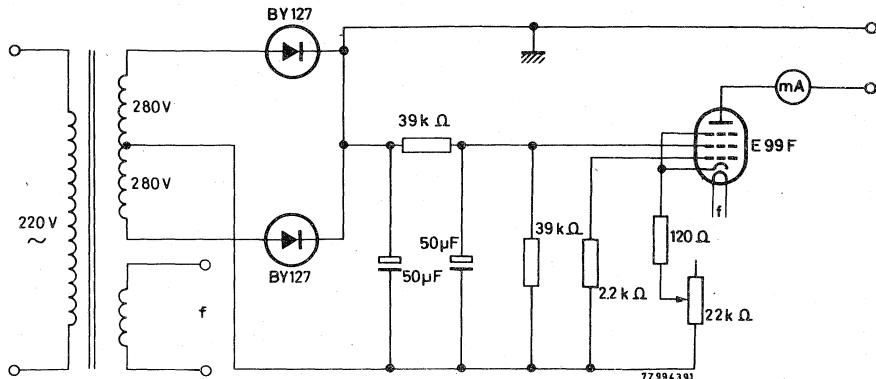

Fig. 9
A d.c. current source which supplies a constant direct current (I) of e.g. 1 mA, is connected to the pins a and b of the potentiometer; for the diagram of the d.c. current source, see Fig. 9. The d.c. voltage resulting from the contact resistance (R_C) and the d.c. current is measured between the pins b and c ($V = I \cdot R_C$).